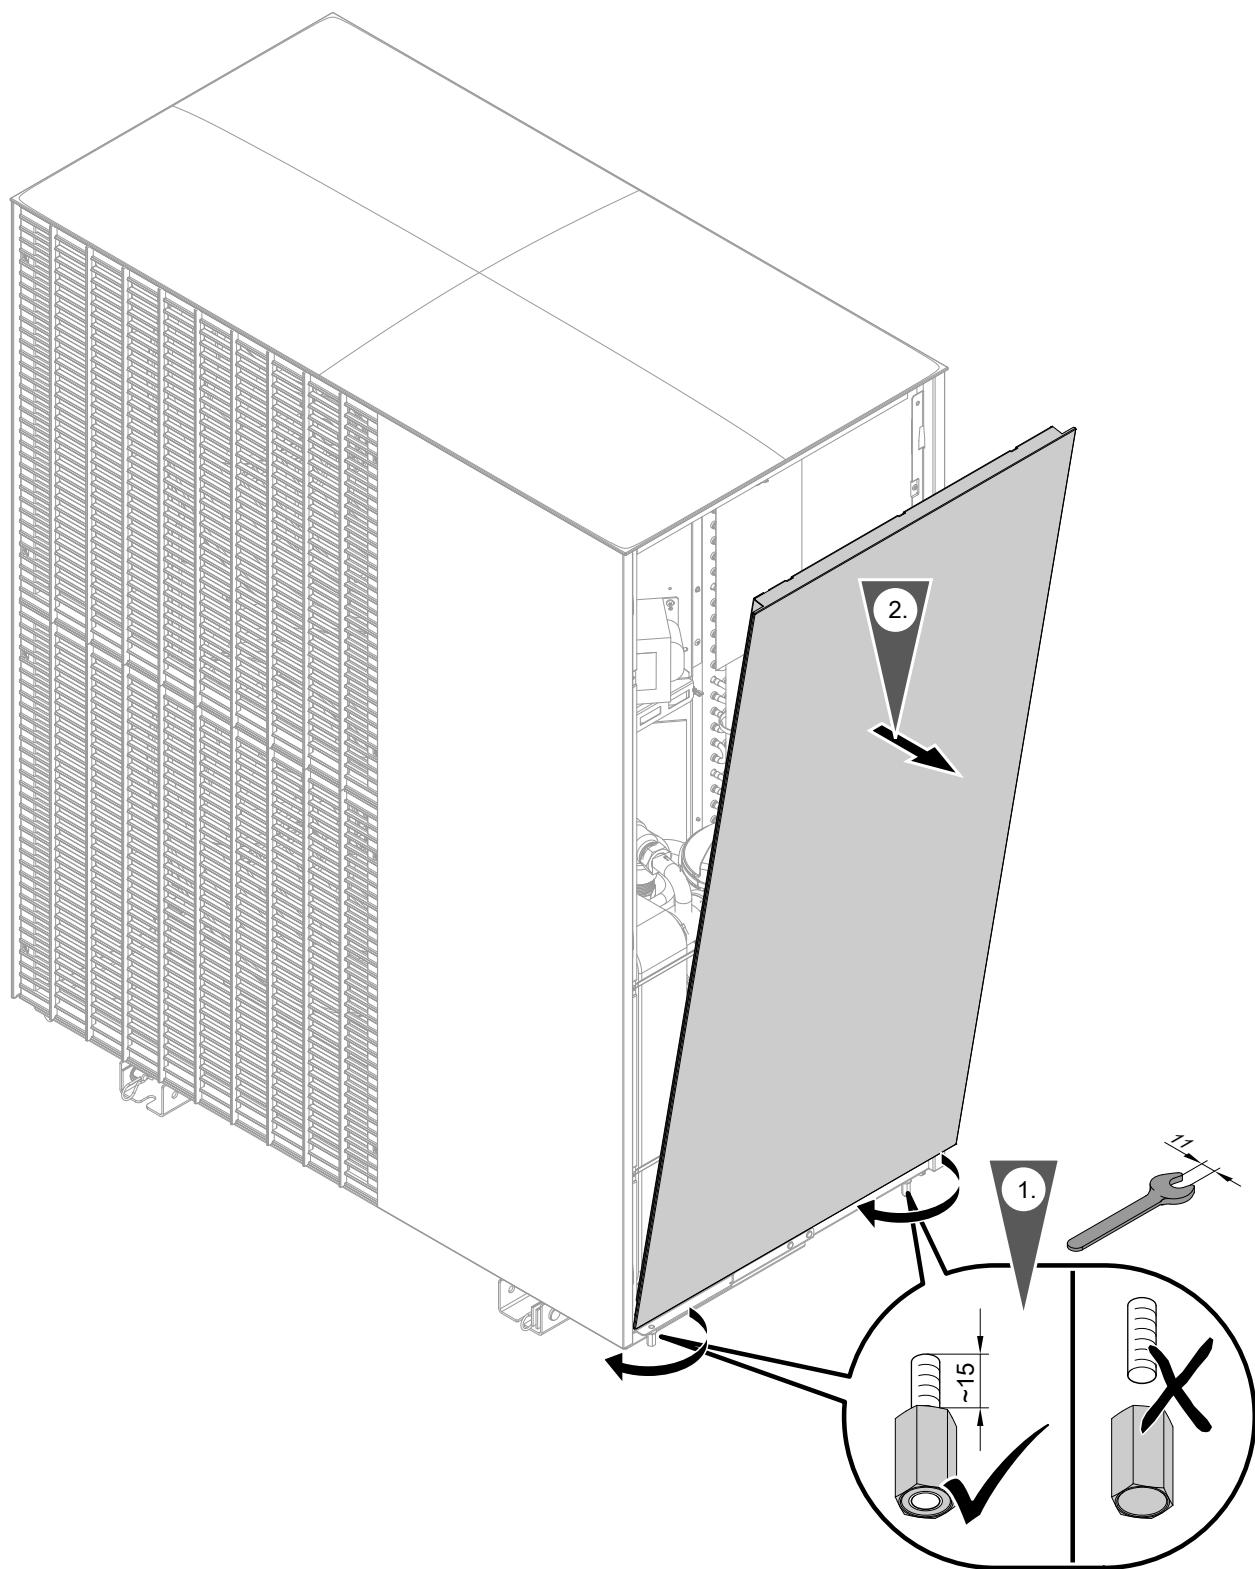

Fig. 98
1. Remove right-hand side casing: See Fig. 98.
3. Remove right-hand side casing: See Fig. 98.